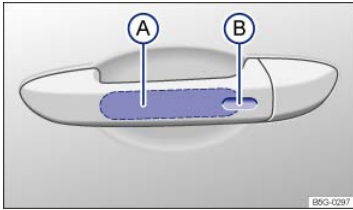

Fig. 54 Keyless Access system: Unlocking and locking sensors on the outside door handle.
Key to ⇒ Fig. 54 :
- Grasp the door handle of the driver or front passenger door so that you touch the unlocking sensor surface ⇒ Fig. 54.
- Touch the lock sensor surface in the door handle on the driver or front passenger door ⇒ Fig. 54 *one time*. The vehicle is locked. The door being locked must be closed.
- Within 5 seconds, touch the lock sensor surface on the door handle on the driver or front passenger door ⇒ Fig. 54.
To use the convenience closing feature to close all power windows and the power sunroof, hold your finger on the lock sensor surface on the outside of the door handle ⇒ Fig. 54 for a few seconds until the windows and the power sunroof close.